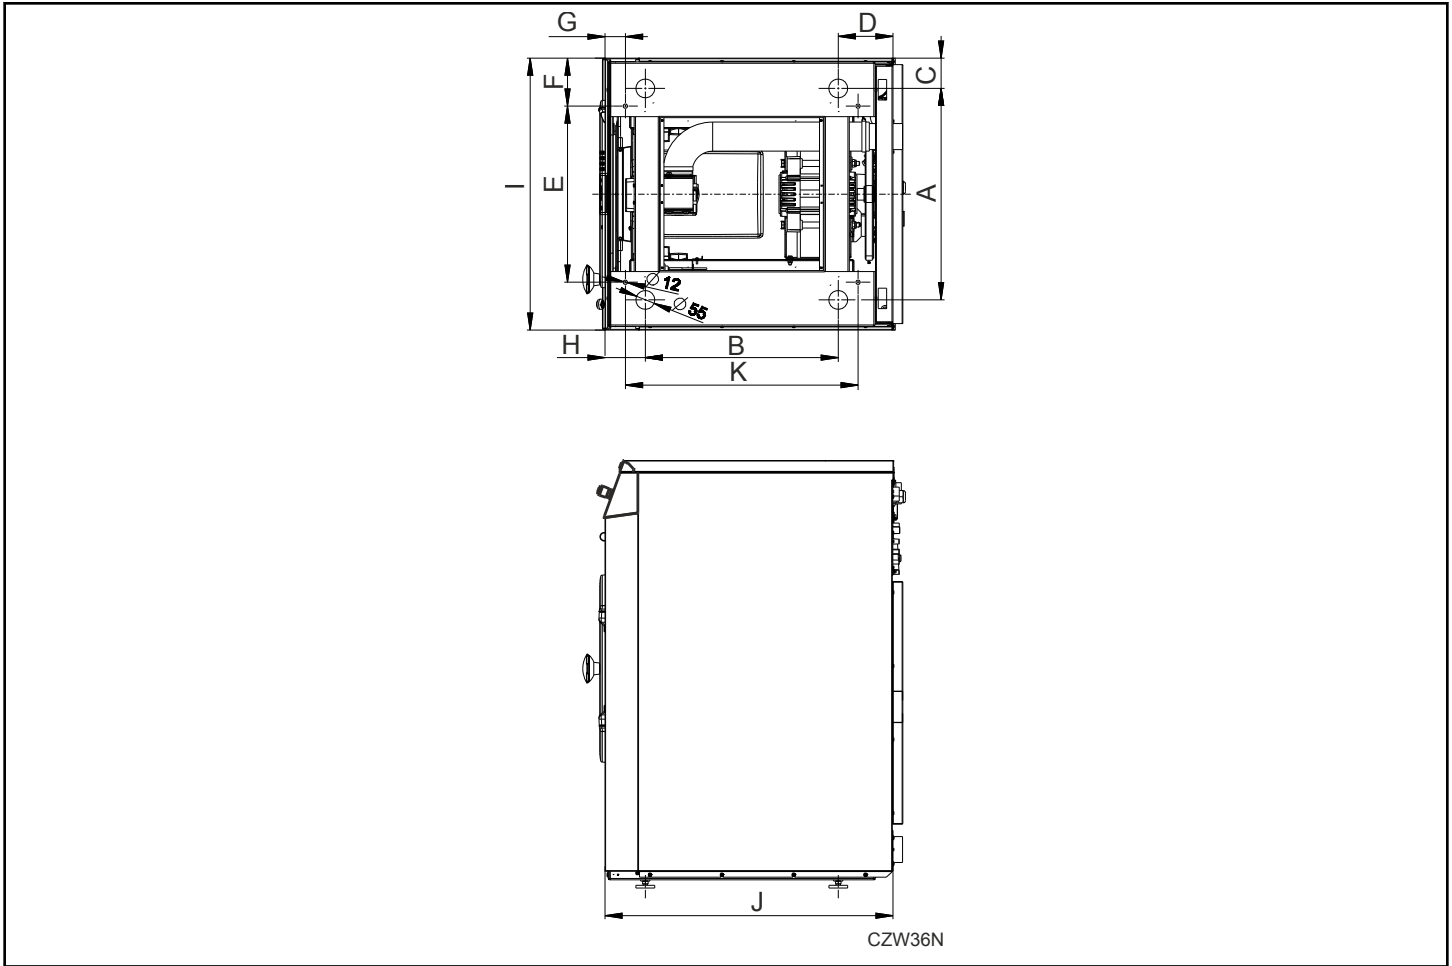

Figure 7
1. Drill 2 holes for the anchoring bolts, refer to *Figure 7* . Hole diameter in machine's base is 0.47 in. [12 mm] .